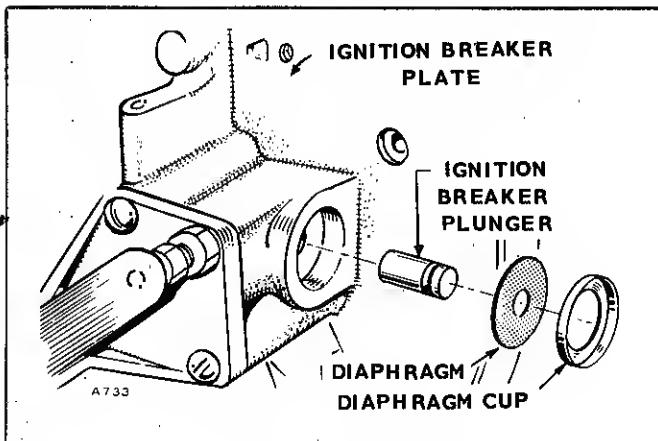

FIGURE 38. DIAPHRAGM & CUP.
4. Install the breaker plate. Install the ignition plunger and diaphragm and diagram cup (Fig. 38).